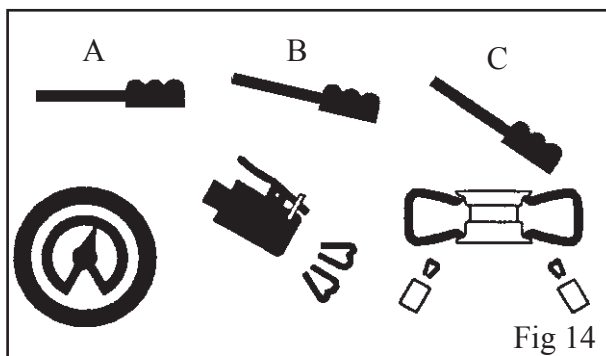

Fig 14
- Release the tyre; set the pedal in the intermediate position (B - Fig. 14) and continue to inflate the tyre with short jets of air and constantly checking the pressure between air jets until the required pressure has been reached.